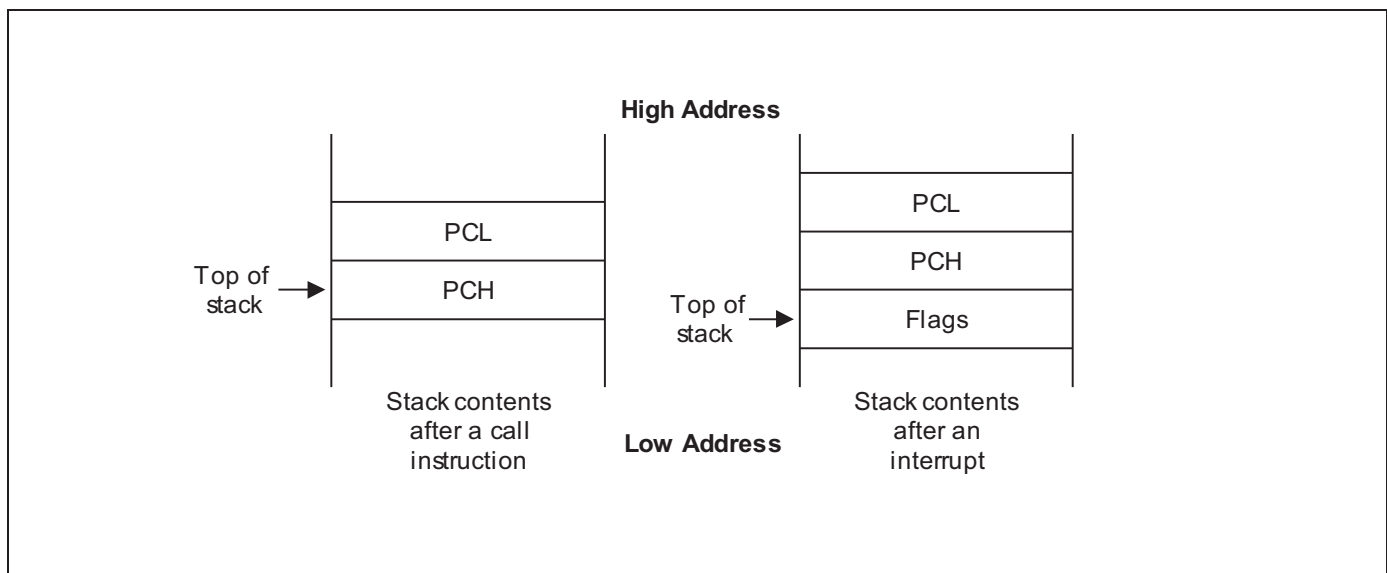

Figure 2-5. Stack Operations
Return addresses for procedure calls and interrupts and data are stored on the stack. The contents of the PC are saved to stack by a CALL instruction and restored by the RET instruction. When an interrupt occurs, the contents of the PC and the FLAGS register are pushed to the stack. The IRET instruction then pops these values back to their original locations. The stack address is always decremented *before* a push operation and incremented *after* a pop operation. The stack pointer (SP) always points to the stack frame stored on the top of the stack, as shown in Figure 2-5.